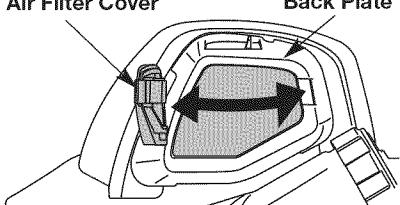

Fig. 34
- Reinstall the air filter cover. Position the two small tabs on the air filter cover into the two slots in the back plate and press the air filter cover down, making sure to align the lock tab with the lock tab slot, until it snaps into place (Fig. 34 & 33).